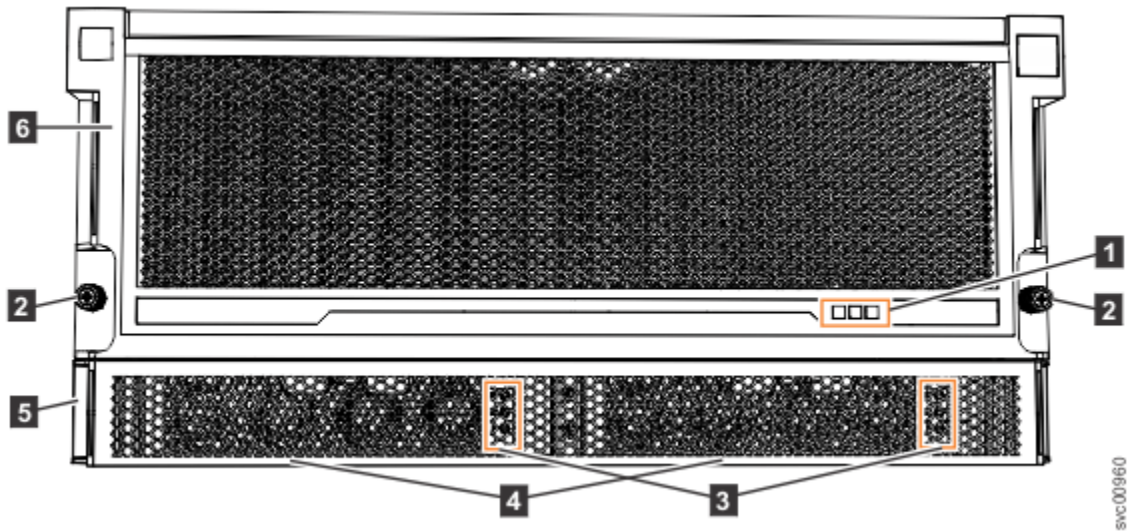

Figure 115. Features on the front of the 2077-92F expansion enclosure
- Before you connect the power cables to the rear of the enclosure, always check that the expansion enclosure is secured in the rack. If needed, tighten the thumbscrews on the front of the enclosure (2 in Figure 115 on page 109) to ensure that the enclosure drawer does not roll open.
The 2077-92F expansion enclosure has two power supply units (PSUs) that are accessible from the front of the enclosure (4 in Figure 115 on page 109). As the figure also shows, the PSUs are covered by the 1U fascia (5).